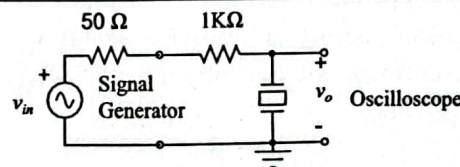

Figure 1: Quartz crystal measurement setup.
1. We measure  $f_s$  and  $Q$  of both crystals in this exercise and then characterize the relevant crystal parameters. The measurement setup is given in Fig. 1.